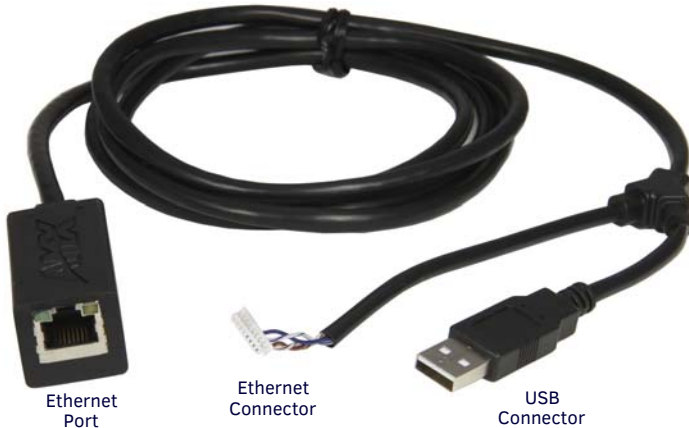

FIG. 1 MXA-UENET
The MXA-UENET Video Acceleration accessory cable (FG5968-75) plugs into a USB port of the Modero X Series® Touch Panel and routes Ethernet traffic into the Modero X Series USB subsystem, which has been optimized to further accelerate streaming video performance (FIG. 1).
4. Press the Ethernet connector cable on the MXA-UENET (FIG. 1) into the clamp.
7. Connect the Ethernet port on the MXA-UENET (FIG. 1) to the network via CAT5 Ethernet cable and apply power.